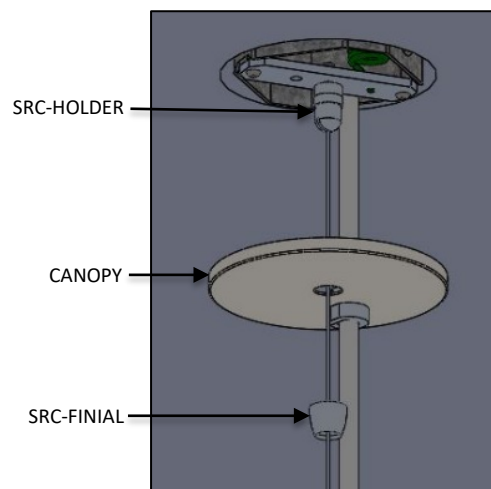

FIG. 24 – FINIAL INSTALLATION
24. Raise CANOPY and secure to ceiling by threading the SRC-FINIAL to SRC-HOLDER.as shown below in FIG.24.